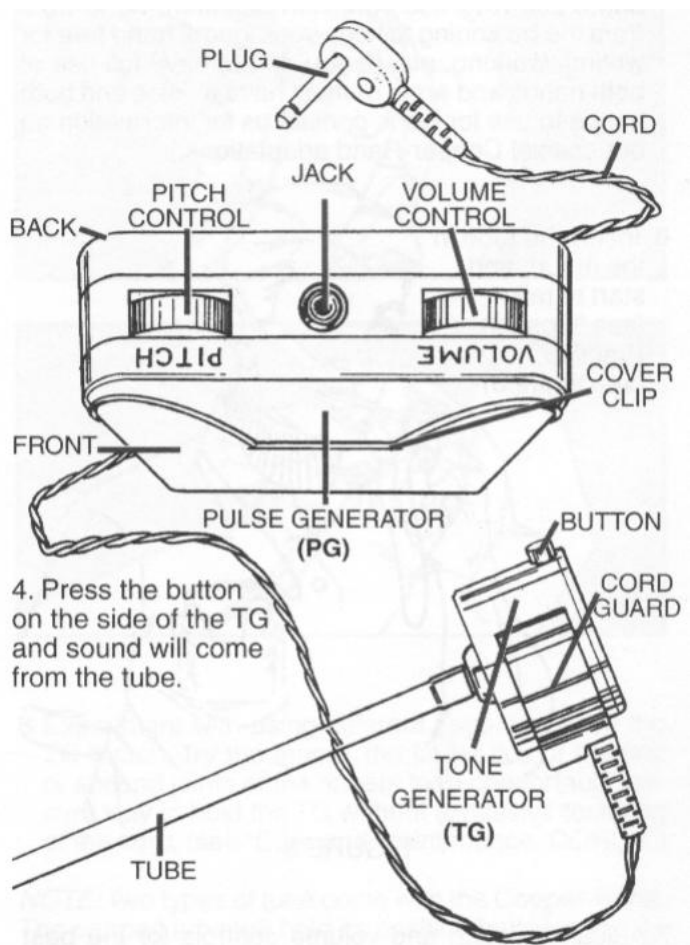

FIGURE 2
1. Remove the Pulse Generator (PG) and the Tone Generator (TG), with cord attached, from the case.
2. Insert the connecting cord plug into the jack between the pitch and volume controls on the top of the PG. (see figure 2)